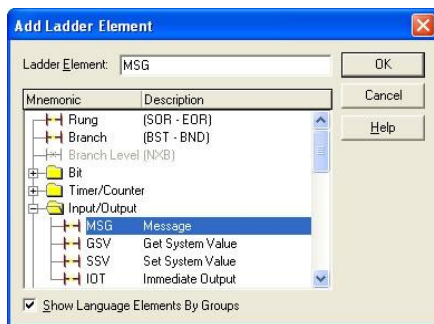

Figure 45: Adding a MSG Instruction
- Select the "MSG" instruction in the Input/Output folder. Refer to Figure 45.